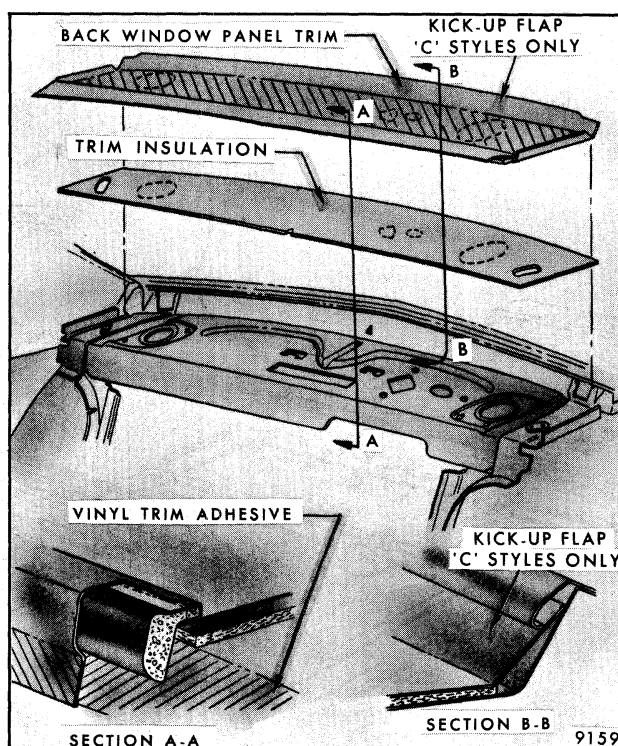

Fig. 9-85-Back Window Trim Panel and Insulator Attachment - Typical "A-B-C-E and F" Styles
7. Carefully break cement bond securing trim assembly at seat back panel (Fig. 9-85).
panel by inserting rear edge of assembly under garnish molding or feature strip. Center and align front edge of trim assembly with front edge of seat back panel as shown in Figure 9-85. With non-staining vinyl trim adhesive, cement valance of trim assembly to seat back panel as shown. Install attaching screws if present, then reverse balance of removal procedure.